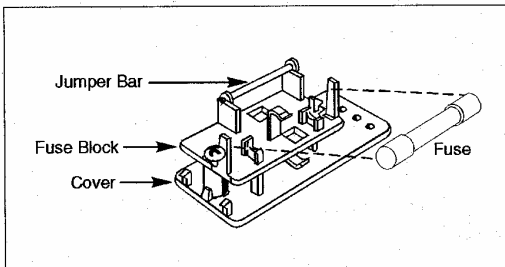

Figure 3.4 North American Fusing Arrangement
3. Change the fuses. Note that two European fuses are required, although a dummy fuse may be used in the neutral (lower) holder (Figures 3.4 and 3.5).